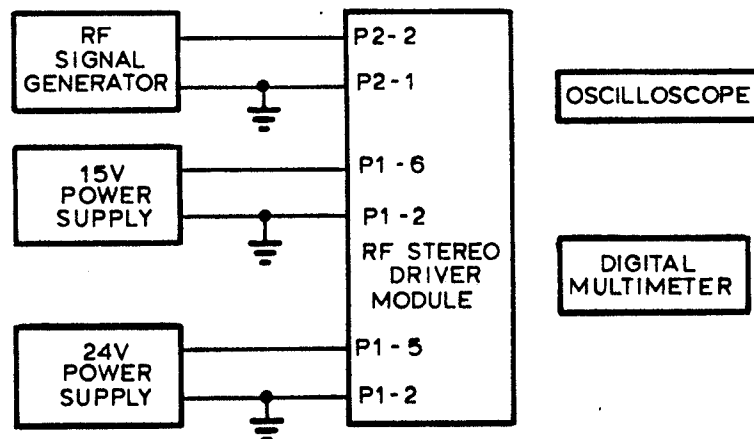

Figure 1 Test Setup for NAPE20 Stereo RF Driver Module
- (b) Connect the NAPE20 stereo rf driver module to the test setup depicted in figure 1.